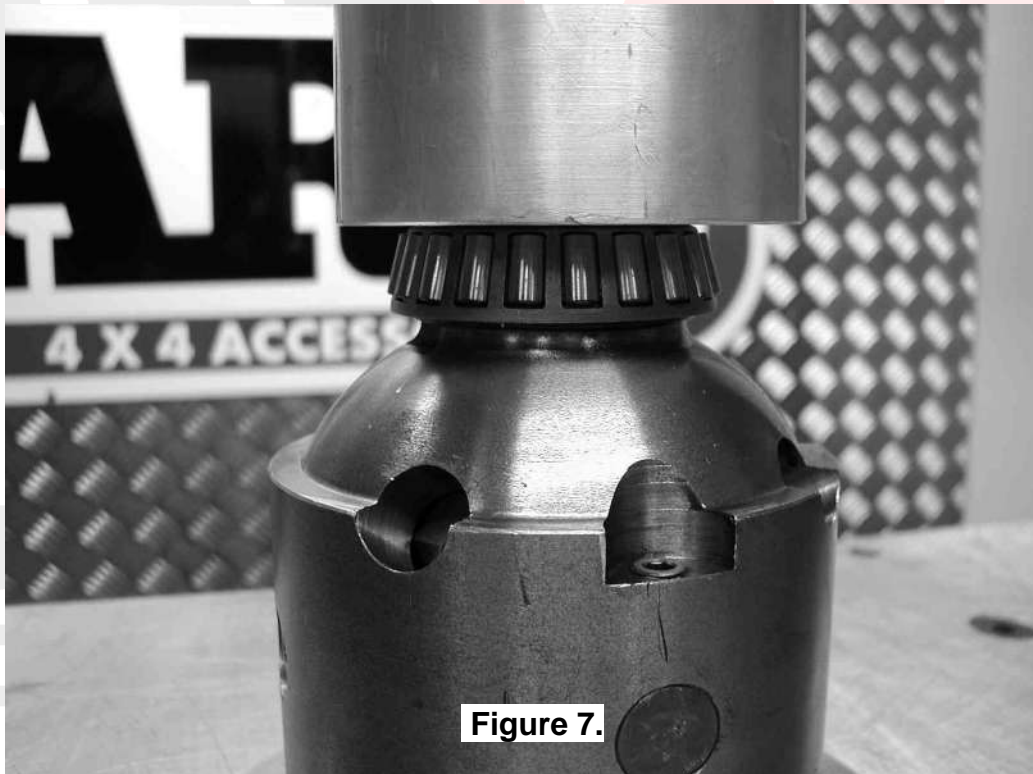

Figure 7.
- Using a bearing press or arbor press, press one of the bearing cones (supplied with the *Air Locker* kit) onto one bearing journal of the *Air Locker* (refer to Figure 7.) until the bearing seats firmly against the bearing journal shoulder.